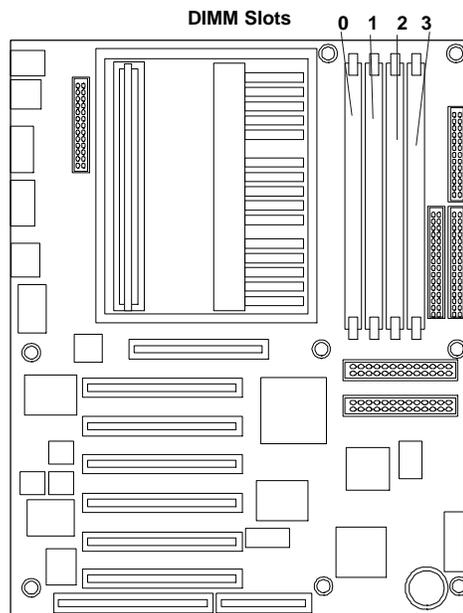

Figure 5-1. DIMM Locations on System Board
There are four DIMM sockets on the system board. See Figure 5-1 for socket location. DIMMs may be installed in any combination in any socket. However, HP recommends starting at socket 0 and filling the sockets in order: 1, 2, and 3.
6. Locate the DIMM sockets (see Figure 5-1).